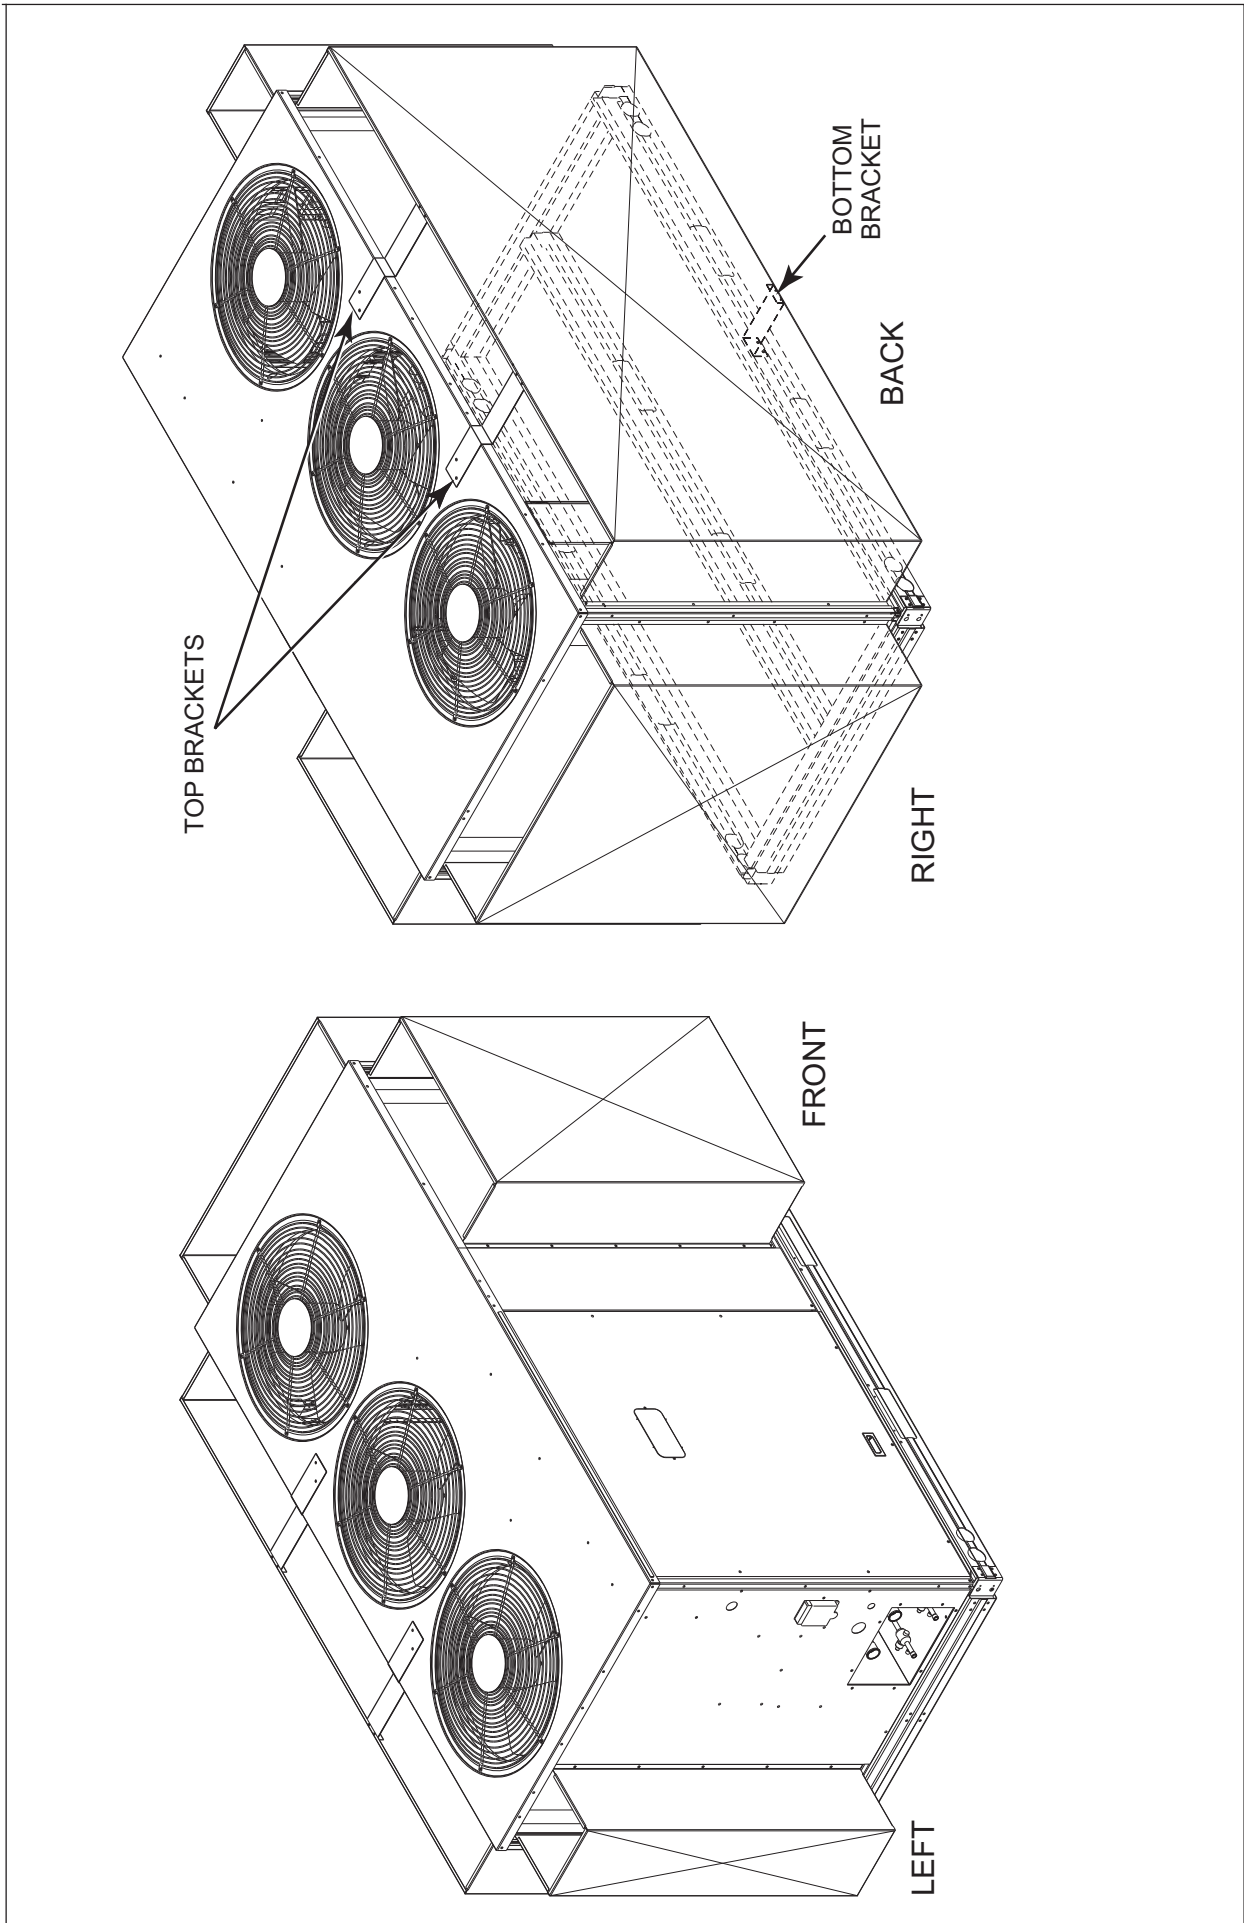
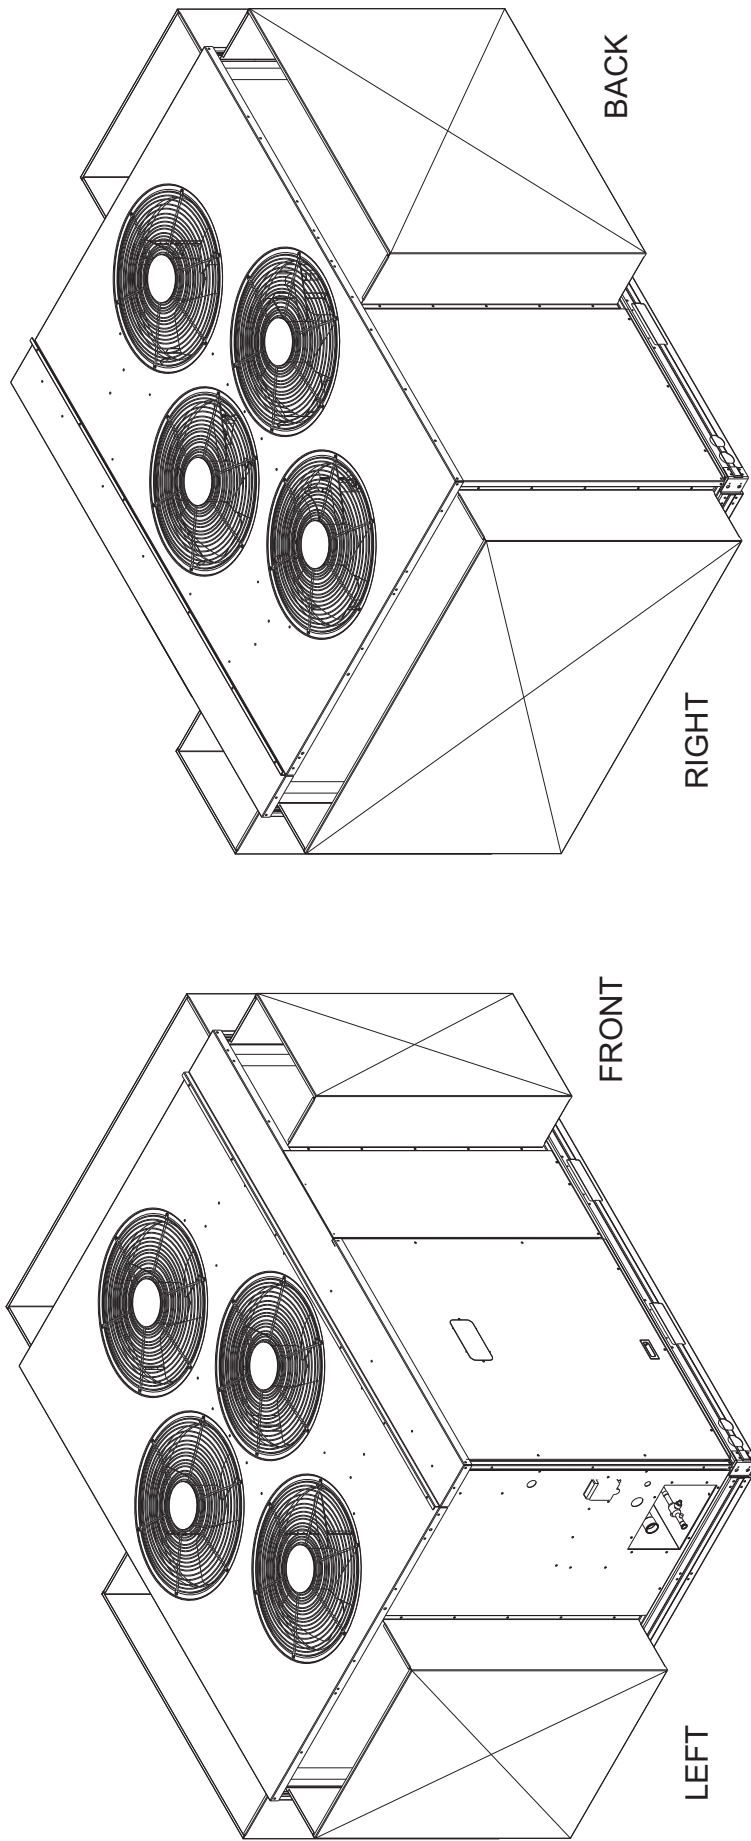

Fig. 53 - Wind Baffle Installation — 15 Ton Units
Fig. 54 - Wind Baffle Installation — 20 Ton Units
- Install the wind baffles as show in Fig. 53, for 15 ton units and Fig. 54, for 20 ton units .